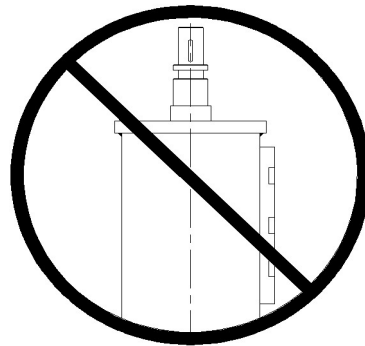

Figure 5-3-1
- b. Using fixture(self-provided)Or equivalent device (Figure 5-3-1) to lower the plumb bob from the top of the column.